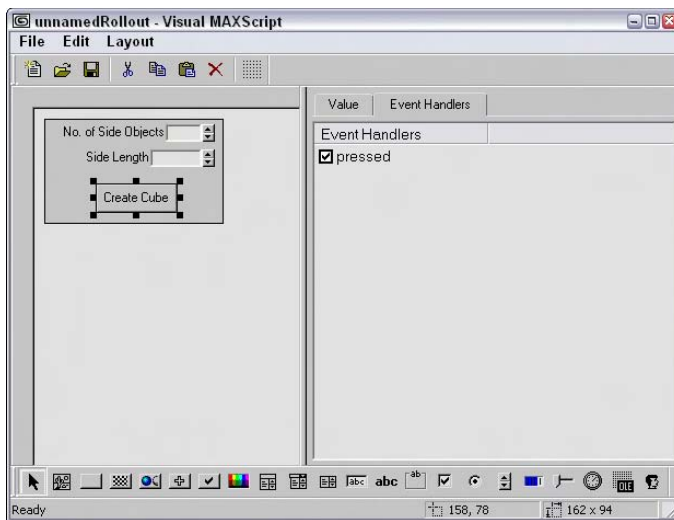

Figure 48-16: The rollout laid out in the Visual MAXScript window
7. Drag over the top of both the spinners to select them both, and choose Layout ⇨ Align ⇨ Right (or press Ctrl+right arrow) to align the spinners. Figure 48-16 shows how the rollout layout looks.